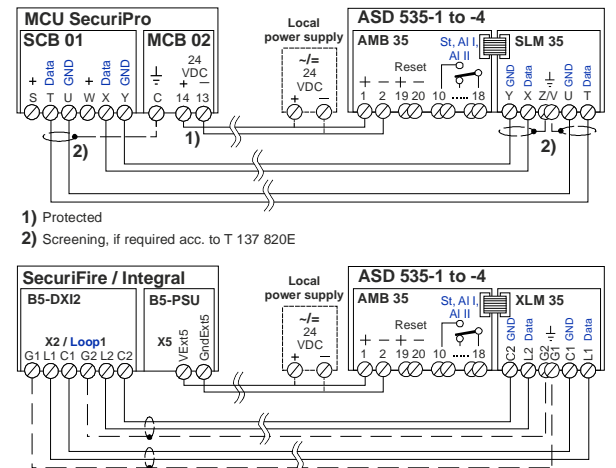

Fig. 26 Wiring from XLM 35 / SLM 35
- The circuitry and wiring routing between **SLM 35** and the FACP SecuriPro, SecuriFire or Integral must be carried out as shown in **Fig. 26** (X on X, Y on Y or X on L2, Y on C2, etc.).
- The circuitry and wiring routing between **XLM 35 / ML-SFD** and the FACP SecuriFire or Integral must be carried out as shown in **Fig. 26** (L1 on L1, C1 on C1, etc.).